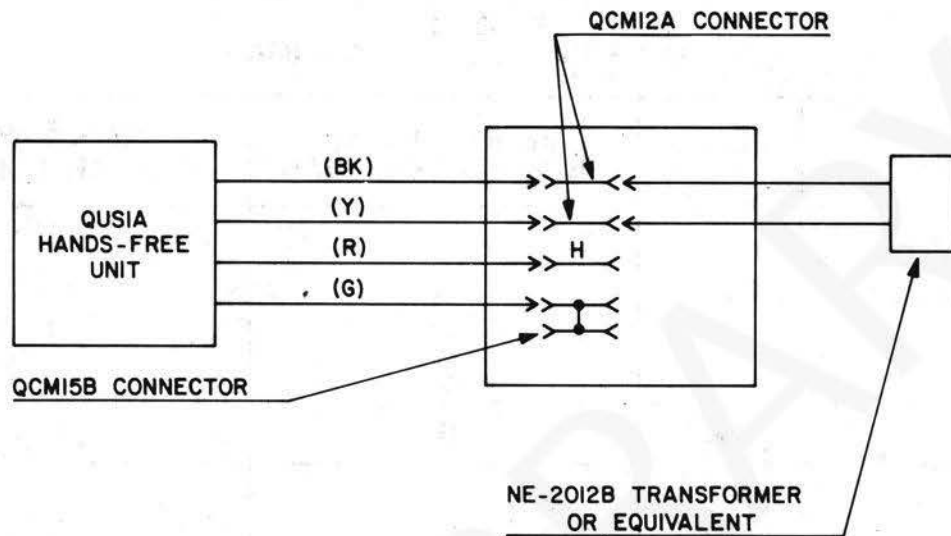

Fig. 2 — Handsfree Connections
3.04 Connections of the QUS1A COMPANION* Handsfree unit to the telephone set must be made within the set. A 2-conductor spade-tip-ended mounting cord is required to make the connection. Connections are to be made as follows (see Fig. 2):
- connect the (BK) and (Y) leads of the handsfree unit mounting cord to the same QCM12A connectors;
- connect the (R) lead of the handsfree unit mounting cord to terminal H of the network;
- connect the (G) lead of the handsfree unit mounting cord to the QCM15B connector which is connected to terminal L1 of the network.